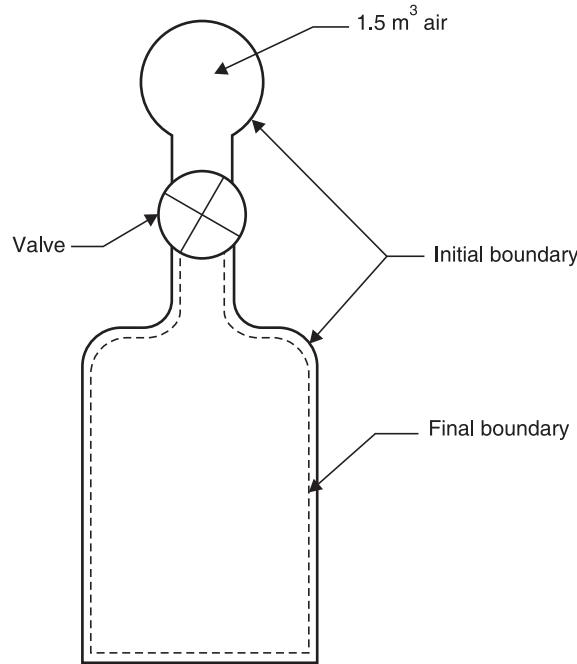

Fig. 1.34
**Solution.** Fig. 1.34 shows the initial and final conditions of the system.